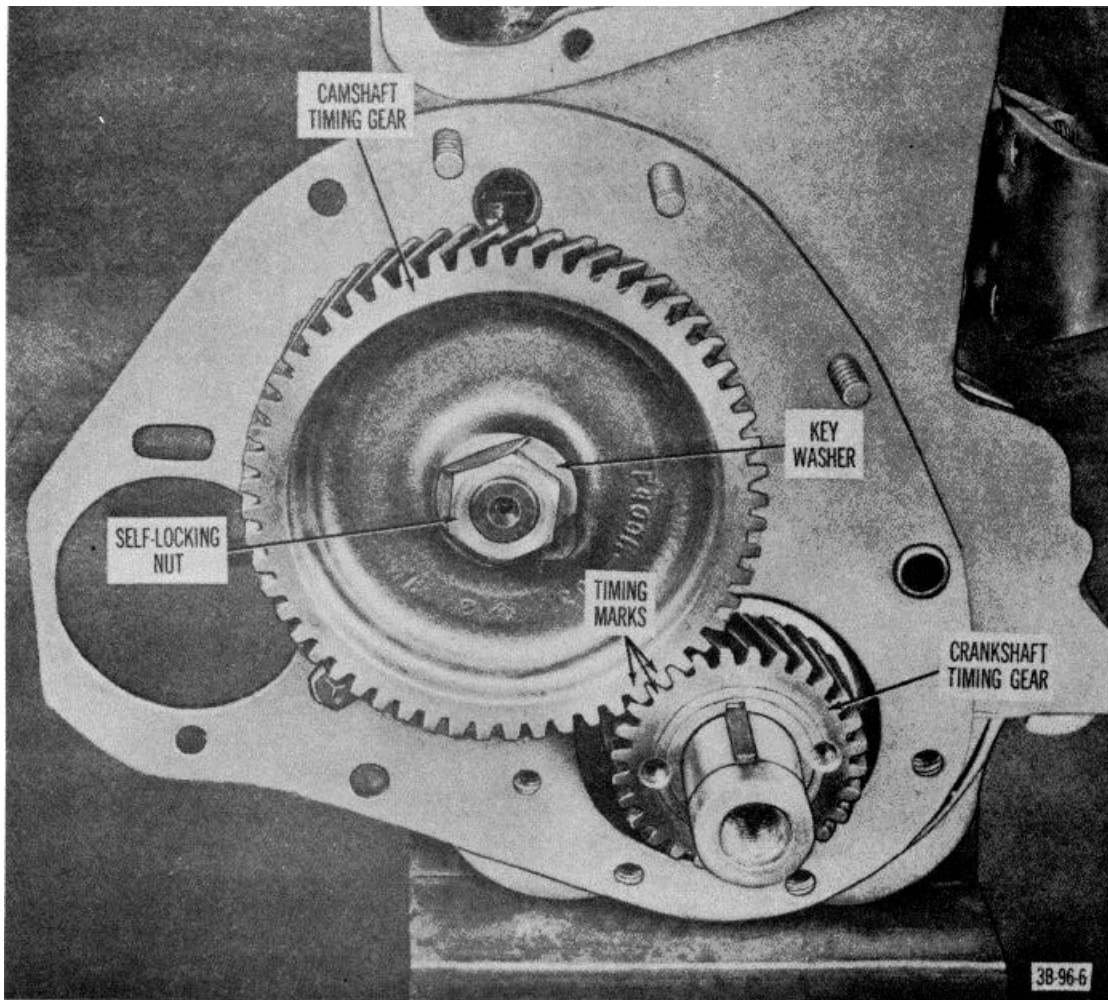

Figure 6. Crankshaft and camshaft timing gears, showing correct alignment of timing marks.
- (1) Remove timing gear cover (per. 18).
- (2) Straighten tine on key washer (fig. 6).
- (3) Remove self-locking nut.
- (4) Use a gear puller and remove cam-shaft timing gear.
c. *Inspection* Reverse procedure in a above, making sure that timing marks on camshaft and crankshaft gears are properly alined (fig. 6).
- (1) Remove camshaft timing gear (par. 19).
- (2) Remove crankshaft timing gear with a puller.
c. *Installation* Reverse procedure in a above, making sure that timing marks (fig. 6) on crankshaft and camshaft gear are properly alined.